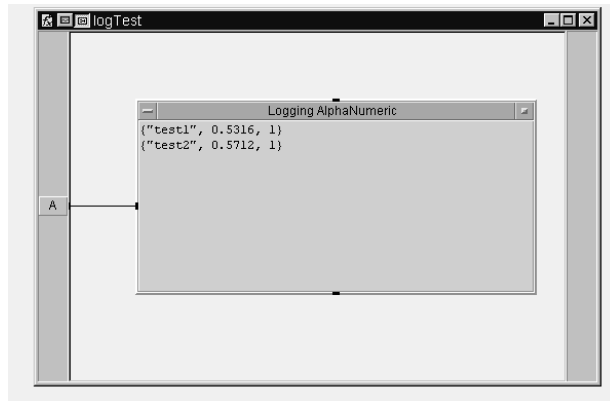

Figure 17.3. Detail view of the UserFunction logTest after running
18. Deselect the display and Panel View Title Bars in the Logging Alphanumeric Properties box to simplify the later presentation. Run this program. See Figure 17.3.